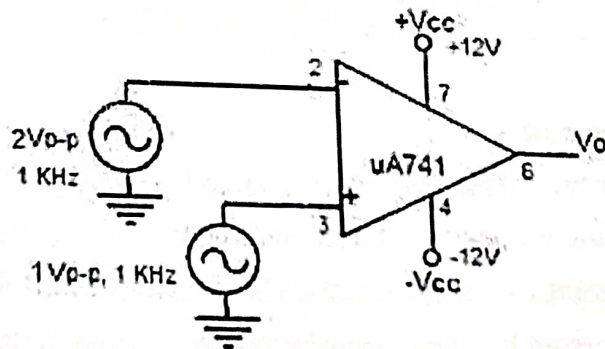

Figure 6.1 Open loop differential amplifier
1. Construct the circuit as shown in Figure6.1.